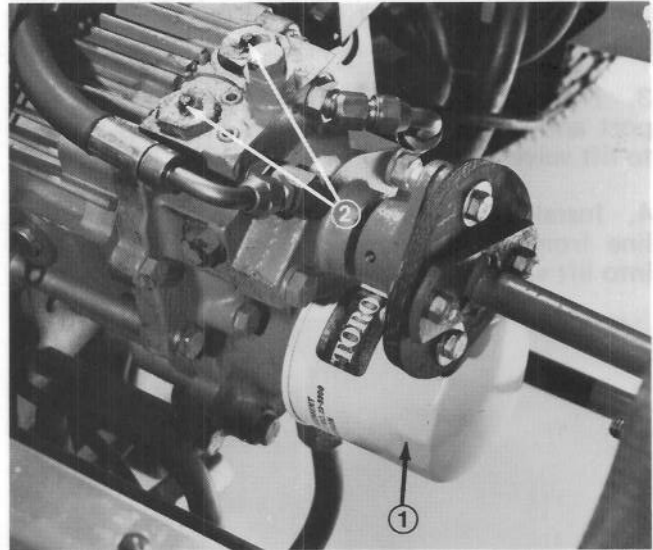

Figure 74
1. Remove hydraulic oil filter from mounting head (Fig. 74). Dispose of the filter properly.
Apply a liberal amount of No. 2 General Purpose Lithium Base Grease to the two by-pass valve pins located on top of the transmission to prevent corrosion build-up which could lock the pins into the by-pass position and cause internal transmission failure (Fig. 74).